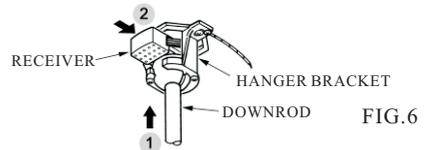

FIG. 6
2. Carefully lift the fan and seat the down rod ball assembly on the hanger bracket. Be sure the groove in the ball is lined up with tab on the hanger bracket. Do not pinch wires between the ball and down rod assembly and hanger bracket (see Fig.6)